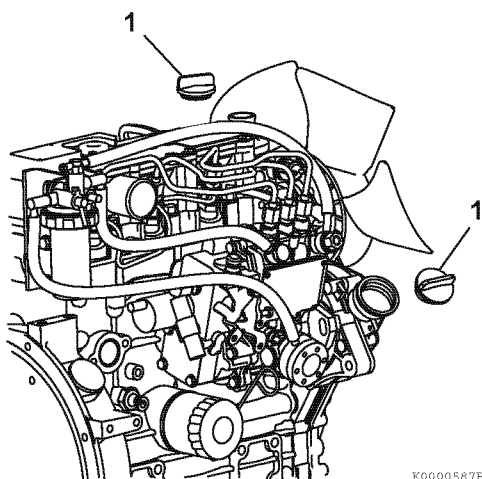

Figure 5-7
4. Remove the oil filler cap (1, **Figure 5-7**) to vent the engine crankcase and allow the engine oil to drain more easily.